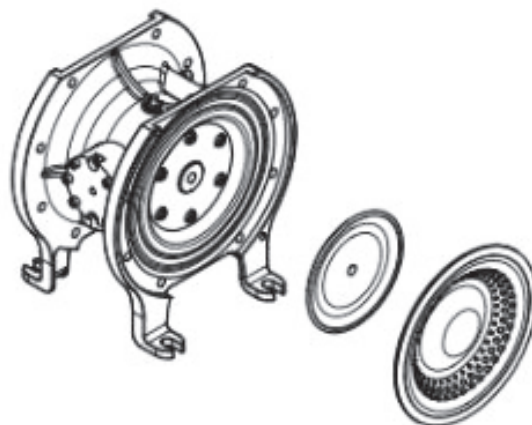

Fig. 5: Disassembly of diaphragm with DSS
- Unscrew the nipped E4® diaphragm by hand. (Fig. 5)